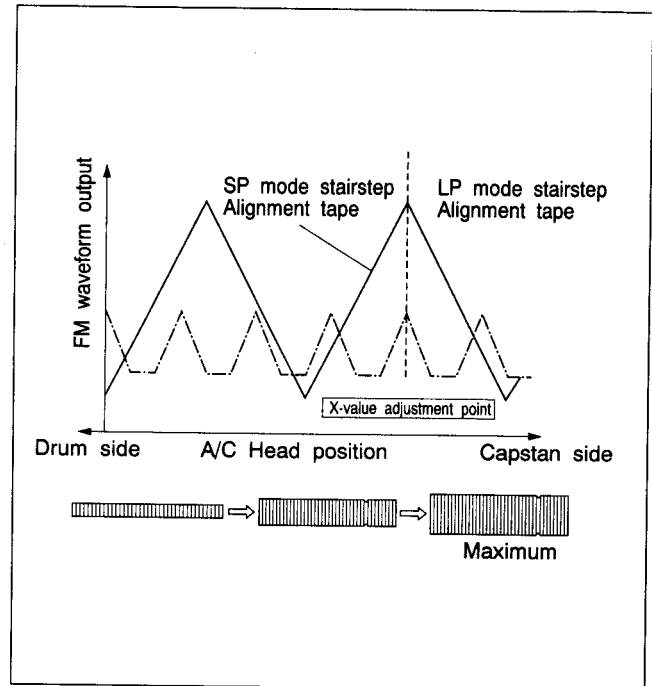

Fig. 2-7-7
- (5) Turn the tool first to position the A/C head fully toward the capstan. Then gradually return it toward the drum and stop at the position of maximum FM waveform output level as shown in Fig.2-7-7.
- (6) Tighten screw (5). Remove the tool and tighten screw (4).
- (7) Eject the SP alignment tape [MHPE] and then re-insert the LP alignment tape [MHPE-L].
- (8) Playback the LP stairstep portion of the alignment tape [MHPE-L].
- (9) Set the neutral manual tracking position by pressing the **///** button on the remote controller or TV PROG "-" and "+" buttons simultaneously.
- (10) Confirm maximum playback FM waveform output level as shown in Fig.2-7-7.
- (11) If not maximum, slightly loosen the screws (4) and (5). Use the tool and adjust the head position for the nearest maximum point. Then tighten screws (4) and (5).